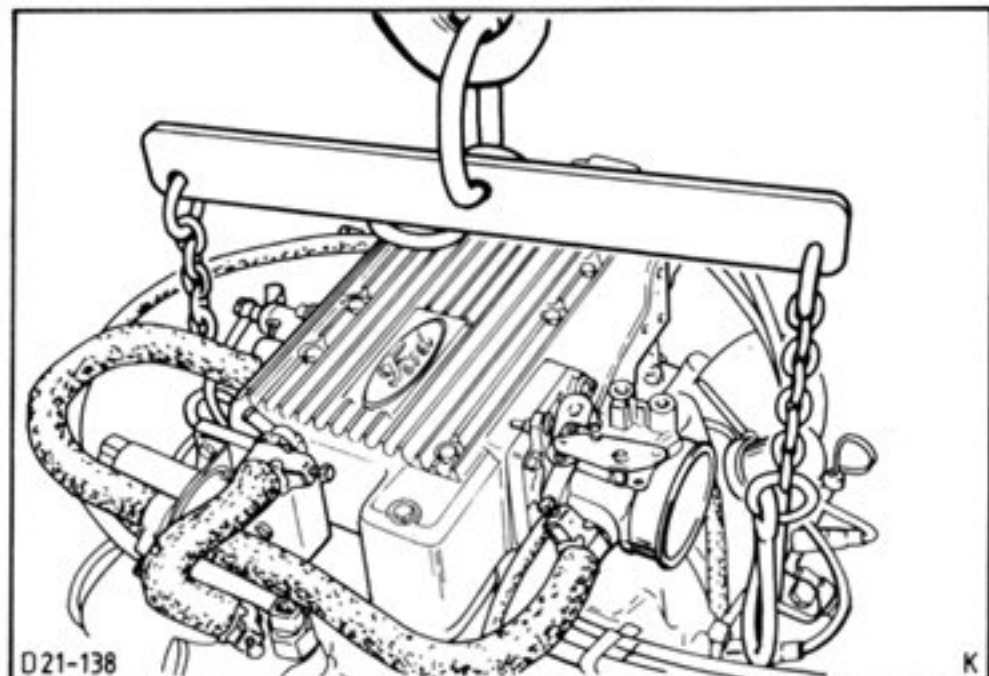

Fig.15. Fit engine lifting bracket 21-068.
18. Fit engine lifting bracket 21-068 to the engine, Fig.15.